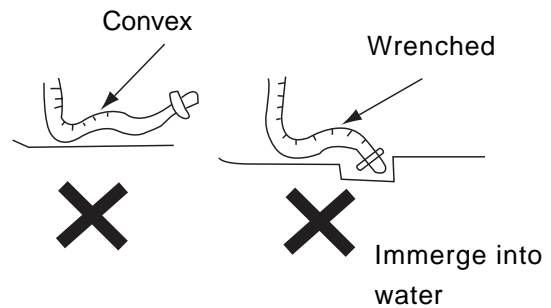

Fig.9-2
- Do not twist, bend or heave the drain hose or immerge its end into water (as shown in Fig. 9-2)